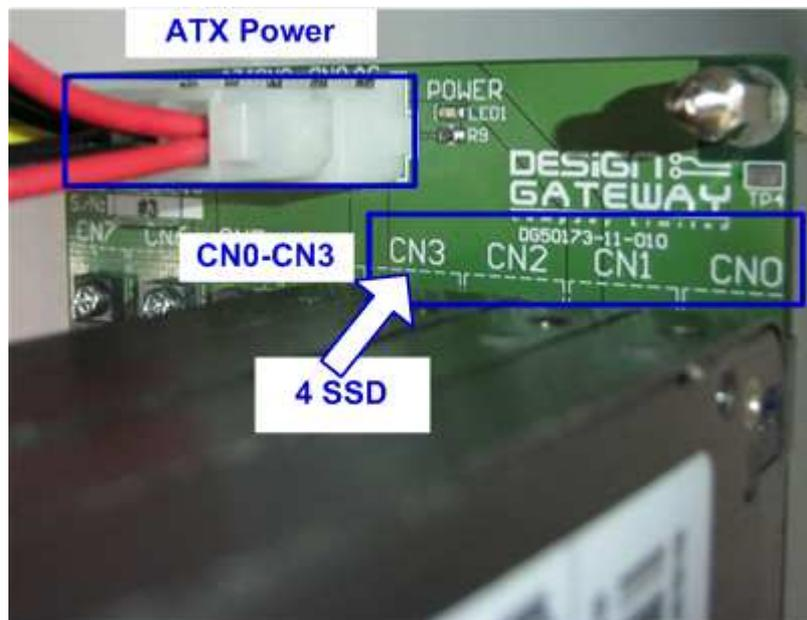

Figure 1-3 SSD and ATX Power Connection
- Connect 4x2.5" SATA-III HDD/SSD to CN0 – CN3 on HSMCRAID board, as shown in Figure 1-3.